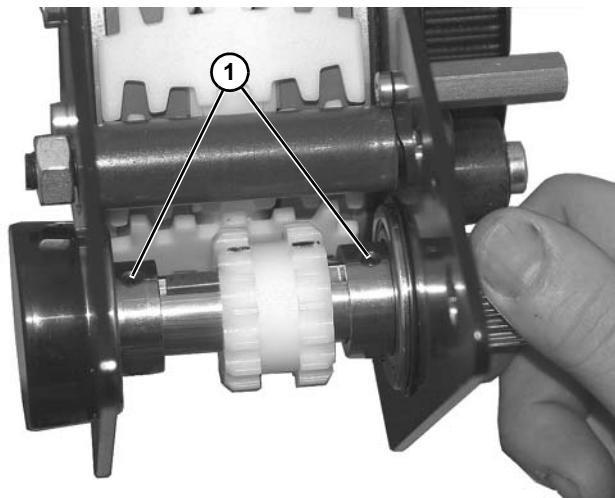

Figure 170
2. Secure drive shaft onto bearings with two set screws (Figure 170, item 1).